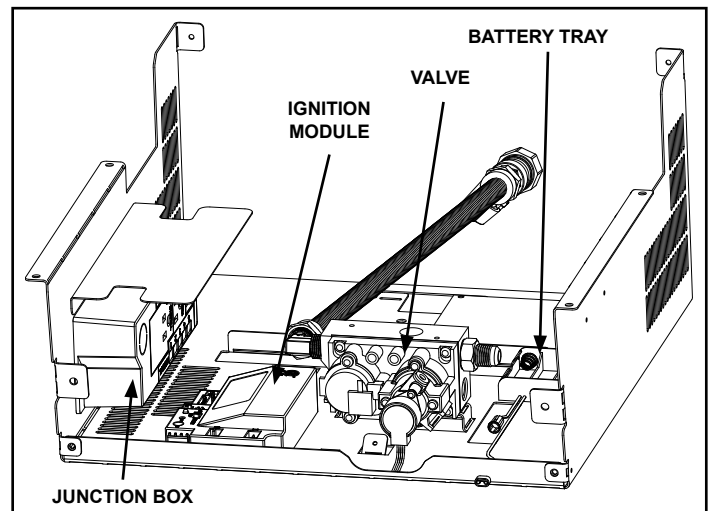

Figure 3.6
This model has a variable burn rate which is controlled by the HI/LO switch on the control module. Therefore the flame height is adjustable. The HI/LO switch is shown in Figure 3.6. It is located in the control cavity of the appliance.
The IntelliFire™ Plus intermittent pilot ignition system comes with a battery backup system that enables the system to operate in a power outage. The system offers seamless transition from household AC power to battery backup. A factory-installed battery pack is located in the control cavity of the appliance. Figure 3.6. Battery longevity and performance will be affected by long term exposure to the service temperatures of this appliance.
2. Locate the battery tray and insert four AA cell batteries. Battery polarity must be correct or module damage will occur. Figure 3.6. A complete wiring diagram is included in the Electrical section of the appliance Installation Manual.
- Locate the ignition module in the control cavity. Figure 3.6